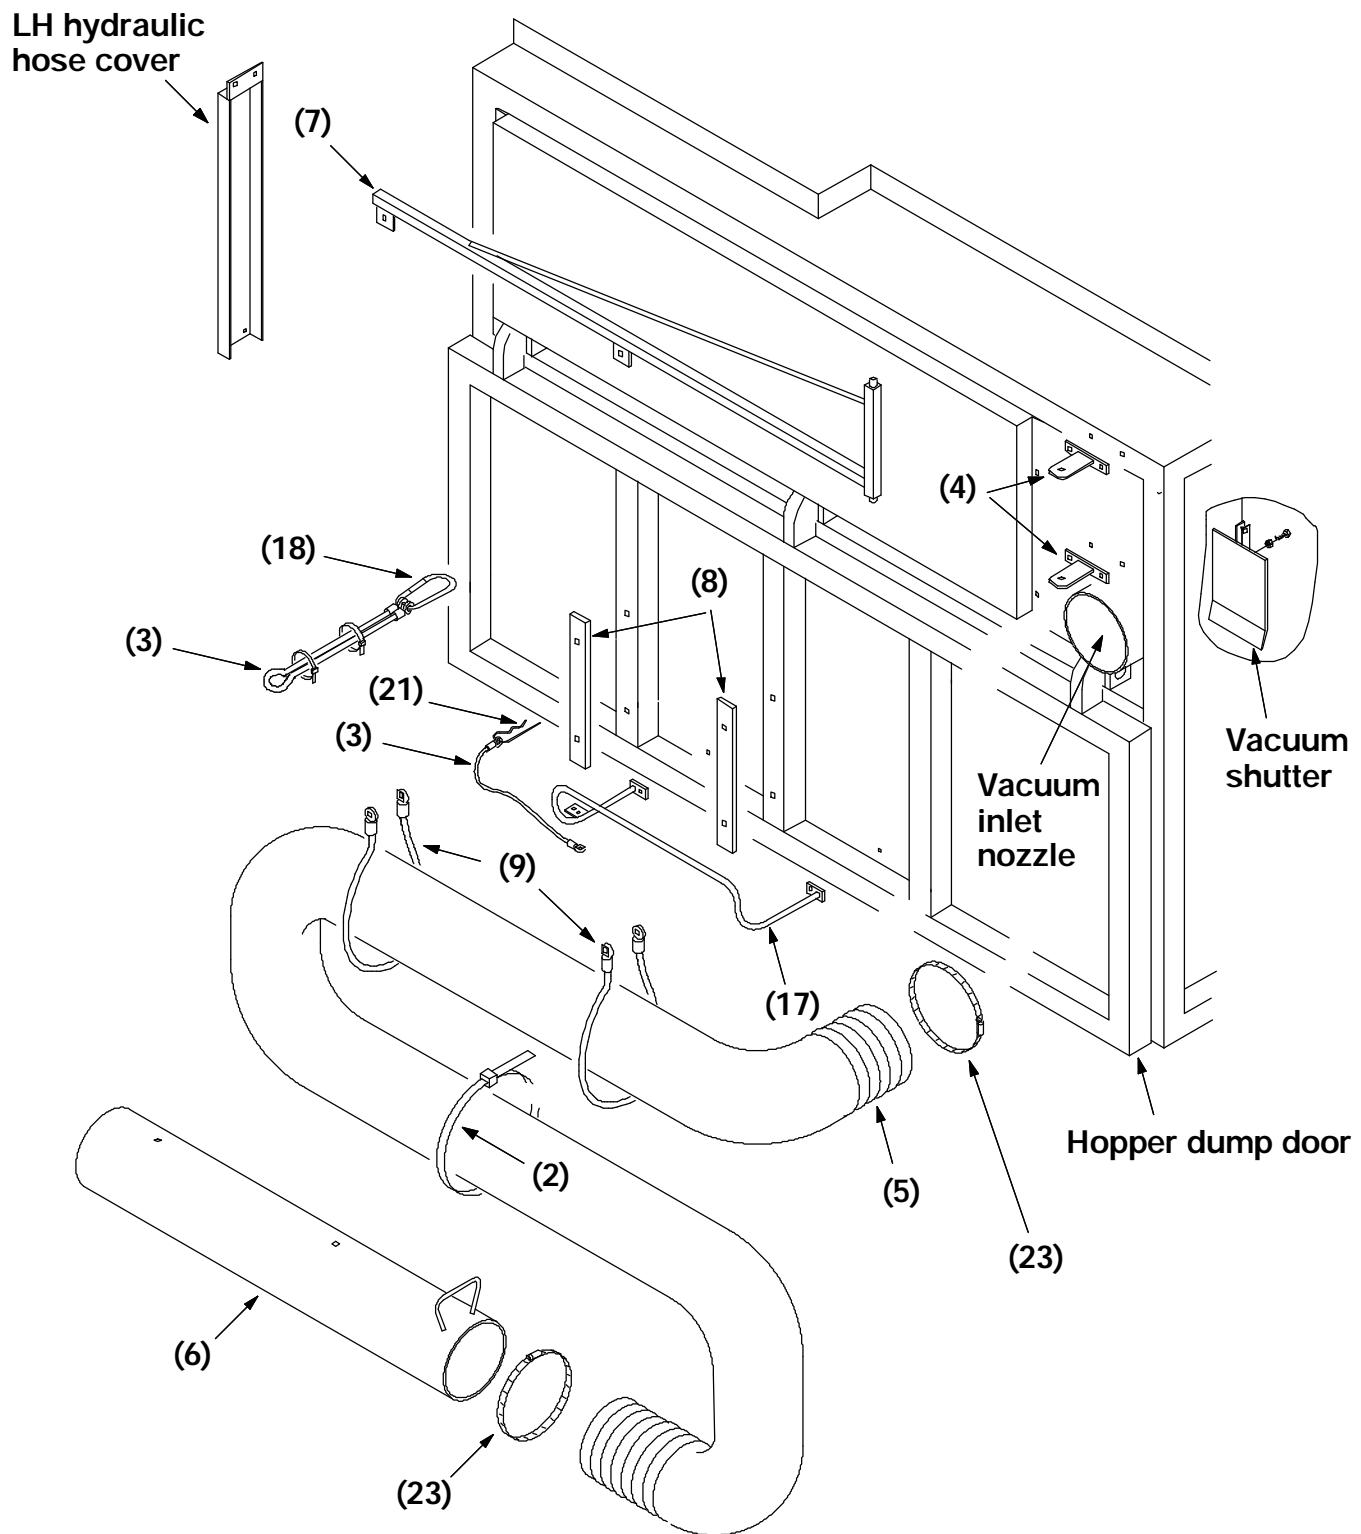

FIG. 4 - Vacuum Hose Assembly
(Refer to FIG. 4)
3. If the machine is equipped with the **water spray group**, remove the LH side frame cover and the LH hydraulic hose cover on the back of the hopper. (Refer to Fig. 4)
2. Reach in on the right hand side of the rear of the hopper and locate the vacuum shutter. This shutter was sealed up at the factory with RTV. Use a razor knife to cut the RTV away from the edge of the shutter. Make sure the shutter swings open smoothly. (Refer to Fig. 4)
5. Install the tube support (17) using two M8 hex screws (44) and nyloc nuts (43). Tighten to 18 - 24 Nm (15 - 20 ft lb). Place some RTV around the hardware on the inside of the hopper. (Refer to Fig. 4)
6. Using one of the nylon rub strips (8) as a template, hold the strip up and centered on the center vertical tube. Line the bottom edge of the nylon strip up with the top edge of the bottom tube. Mark both holes. Repeat this procedure on the vertical tube to the left of the center vertical tube. Drill these four holes at .196 (3/16) in. A #11 drill will also work. (Refer to Fig. 4)
8. Install one of the vacuum hose boom supports (4) to the lower set of tapped holes just above the vacuum tube inlet nozzle. Tighten the two M8 hex screws (50) to 18 - 24 Nm (15 - 20 ft lb). (Refer to Fig. 4)
9. Place the vacuum wand hose boom (7) on the support bracket (4) that was just installed. Install the second hose boom support (4) in the upper set of tapped holes. Tighten the two M8 hex screws (50) to 18 - 24 Nm (15 - 20 ft lb). (Refer to Fig. 4)
10. Place one end of the vacuum hose (5) on the vacuum inlet nozzle on the back of the hopper. Use the special ribbed hose clamp (23). Leave the clamp loose for now. (Refer to Fig. 4)
11. If the machine is equipped with the **water spray group**, the .50 in. nylon braided hose must be installed at this point. The longer 28 ft. water hose (32) is installed starting from the end of vacuum hose where it attaches to the metal hand held nozzle (6). From there it routes along with the vacuum hose (5) up to the area of the boom (7) where the attachment brackets (4) are bolted to the back of the hopper. From that point the water hose (27) continues along and is routed with the vacuum fan motor hydraulic hoses, down the side of the hopper, looped forward and attached to a straight plastic bulkhead fitting (29) in the area of the hydraulic bulkheads. The shorter 16 ft. piece (27) attaches to the other side of the plastic bulkhead (29) and is routed, along with a group of hydraulic hoses, down the side of the machine frame, to the front right corner of the machine cab. (Refer to Fig. 4 and 5)
13. Reinstall the LH side frame cover to the back of the hopper and the LH hydraulic hose cover to the right side of the machine frame. (Refer to Fig. 4)
14. Attach the vacuum hose (5) to the boom (7) using two vacuum wand cables (9), two M8 hex screws (44) and nyloc nuts (43). Rotate the hose so it flows neatly from the hopper, up the boom, and out to the end where the metal nozzle (6) will be installed. Tighten the two M8 hex screws to 18 - 24 Nm (15 - 20 ft lb). Also tighten the hose clamp (23) that was left loose in step 10. (Refer to Fig. 4)
15. If the machine is equipped with the **water spray group**, the vacuum water spray tube (28) needs to be installed on the metal hand held nozzle (6). Position the water spray tube (28) on the metal hand held nozzle (6) and mark the two mount holes. Drill two .281 (9/32) in. holes. Mount the spray tube (28) using two M6 hex screws (45) and nyloc nuts (42). Hand tighten. (Refer to Fig. 4 and 5)
16. Install the metal hand held nozzle (6) to the end of the vacuum hose (5). Use the special ribbed hose clamp (23). Hand tighten. (Refer to Fig. 4 and 5)
17. If the machine is equipped with the **water spray group**, make sure the water hose (27) is tied neatly along with the vacuum hose (5). (Refer to Fig. 4 and 5)
18. Using the compression fitting (33) provided in this kit, attach the water hose (27) to the spray tube (28) and ball valve (30) in the area were the vacuum hose (5) attaches to the metal hand held nozzle (6). (Refer to Fig. 4 and 5)
19. Install one of the shorter cables (3) and a hair pin (21) to the left side of the support tube bracket (17). (Refer to Fig. 4)
20. Install the other short cable (3) and chain snap hook (18) to the hopper door and around the hose boom (7). (Refer to Fig. 4)